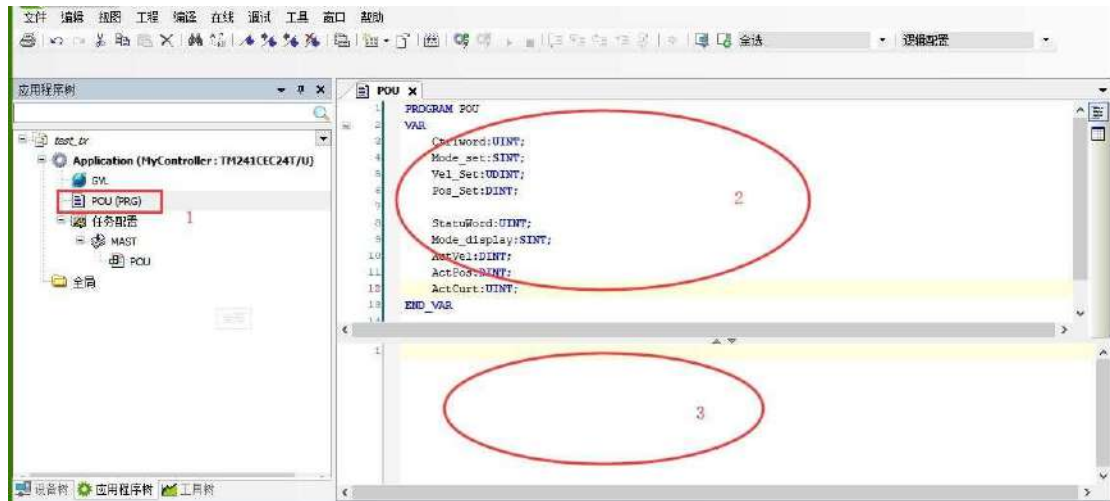

Figure5-16 Writing POU Program
- 2) Double click on POU, as shown in Figure 5-16. Define variables in the "2" area, write logical programs in the "3" area, then click compile, confirm that there are no errors, and proceed to the next step.